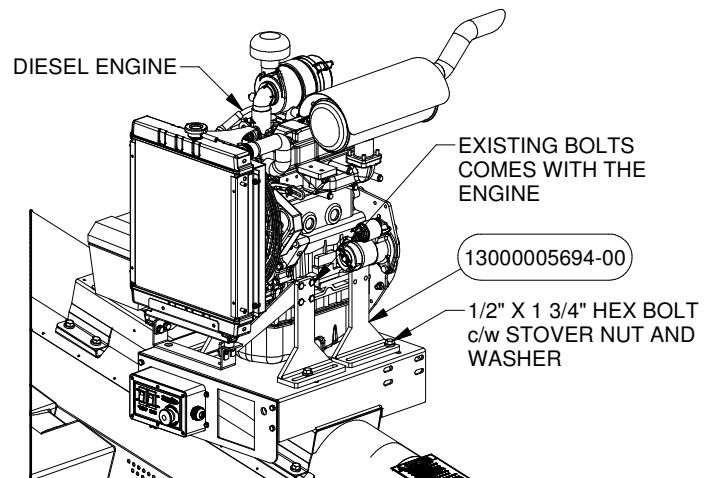
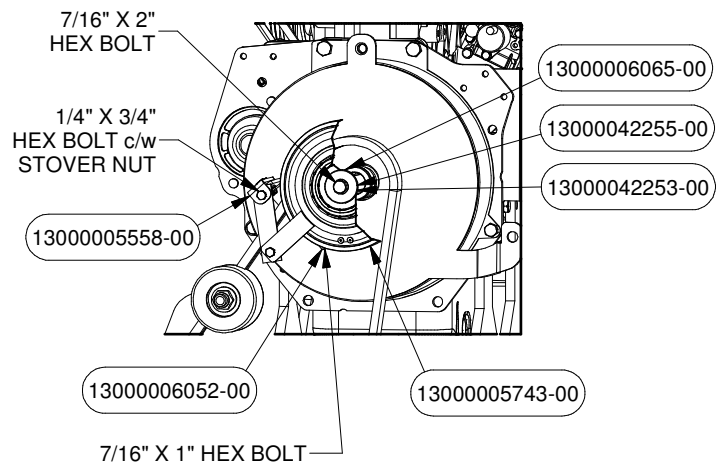

FIGURE 28
FIGURE 30
- Attach the Diesel Engine to the Engine Mount PN# 6601 using the Leg Mounts PN# 5694 and Hex Bolts c/w Stover Nut and Washers as shown in Figure 28.
Attach the Clutch Brackets PN# 5558 and PN# 6052 to the Flywheel Guard using Hex Bolts c/w Stover Nuts (see Figure 30). Place the Belt PN# 5906 as shown in Figure 28. Fasteners can be found in Bolt Bag PN# 6053.